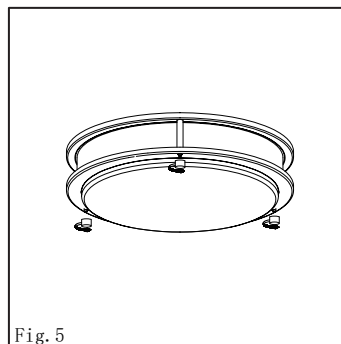

Fig. 5
5. Secure the fixture shade and the frame to the fixture pan using the thumb nuts.. (Fig.5)